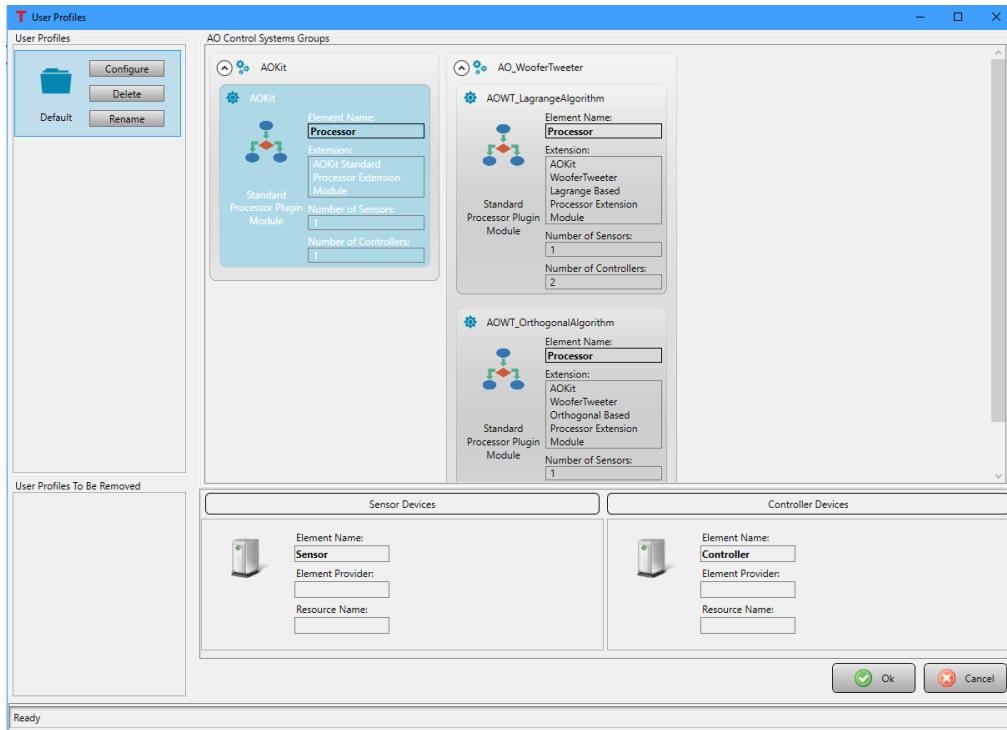

Figure 70 This window appears after clicking the Configure User Profiles from Main window
1. From main window toolbar, click User Profiles->Configure User Profiles. This will open User Profiles window, see Figure 70.